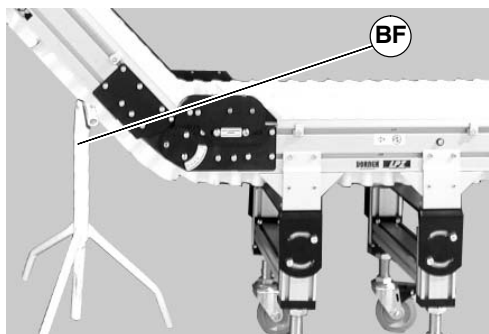

Figure 49
2. Place temporary support (BF of Figure 49) under conveyor sections.